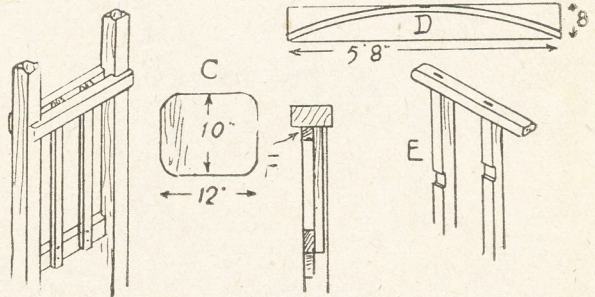

Fig. 2—Details of construction of various parts
For the top curved rail strike a double arc of 2ins. thickness on a length of 1in. thick board, as at (D) in Fig. 2. This can be done with the old gadget of a length of string, tied to a nail and with a pencil tied to the opposite end. Alternatively,
The vertical rails, introduced for an ornamental effect, are nailed to the curved rail at the rear. They are evenly spaced in each division. Underneath the top rail of the arch, a 1in. wide strip of wood is nailed along in each division, shown at (F) in Fig. 2, for nailing the vertical rails to at top.
The lower vertical rails are nailed between the horizontal bars, and then to the rear of the lower bar, as in detail sketch, Fig. 2. To the middle pair of bars a small shelf is nailed, cut to the shape and size given at (C). The structure can